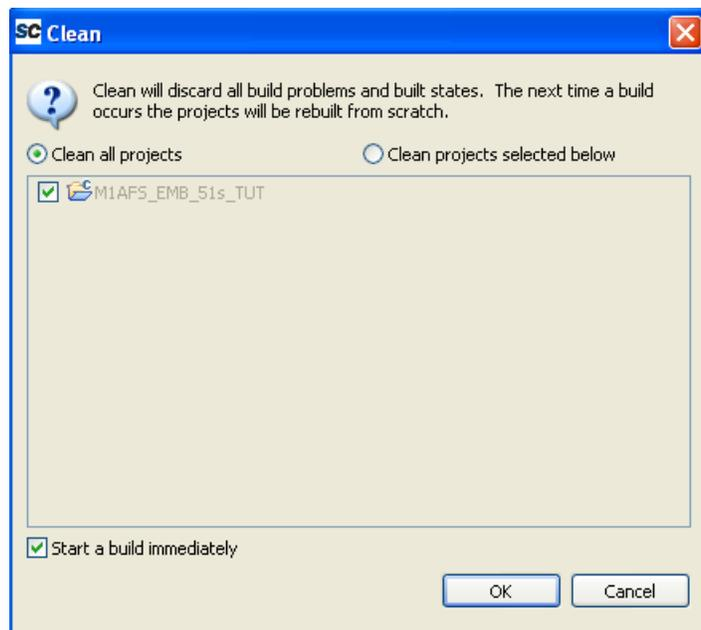

Figure 5-3 · Cleaning Options
- The Clean box will open. You can clean all the projects in your workspace or only selected projects (Figure 5-3).